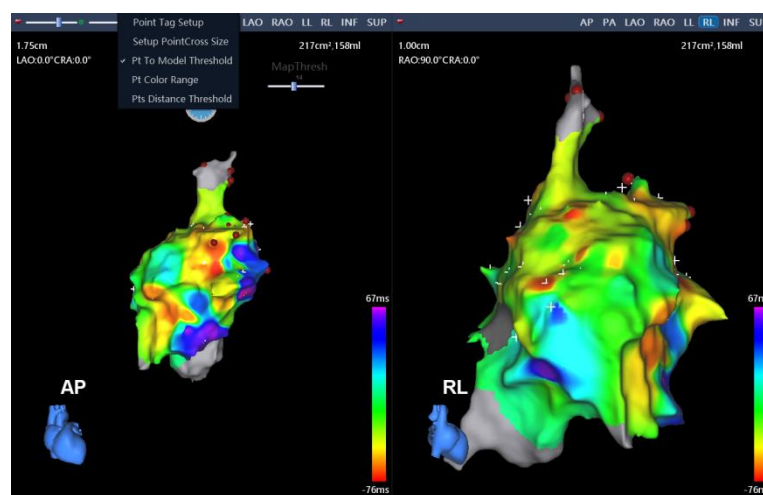

Figure 10-4 Mapping Point To Model Distance Threshold
- 3) Drag the slider to set the appropriate threshold (Figure 10-4).